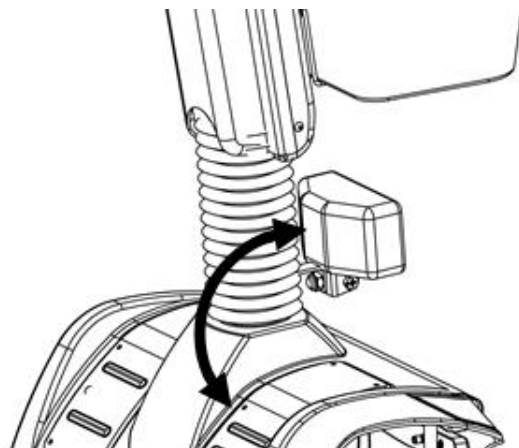

Figure 5.9
5.13.3 When you release the adjustment lever; the steering column will lock in place. (See Figure 5.9)